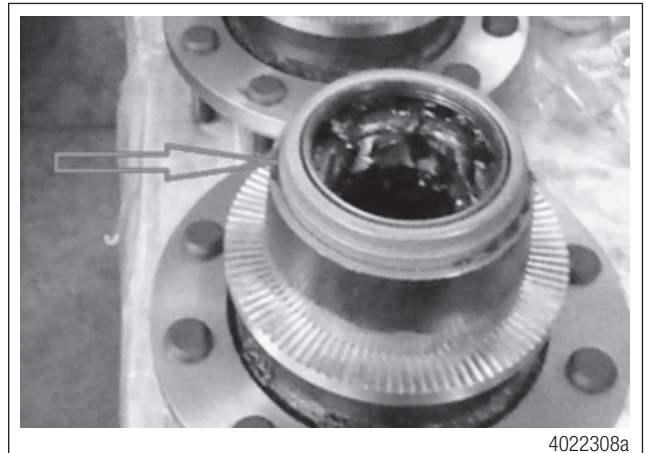

Figure 20
4. Place the wheel seal on the hub assembly. Figure 20.